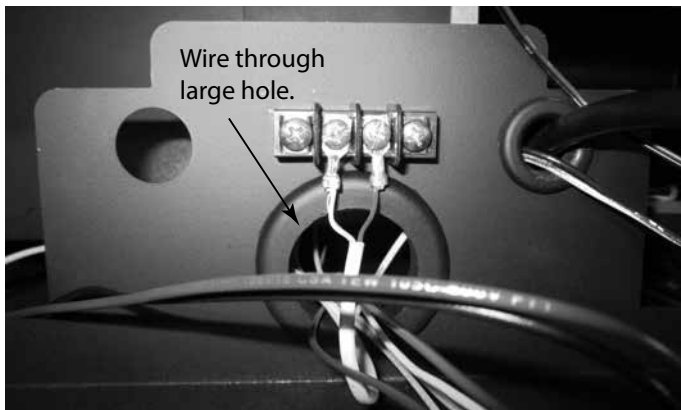

Figure 4.7 Thermostat Wire Attached
- Open the lower access panel on the front of the fireplace. Locate the end of the thermostat wire and run it in through from the back of the large hole and up to and attach it to the terminal block. See Figure 4.7.